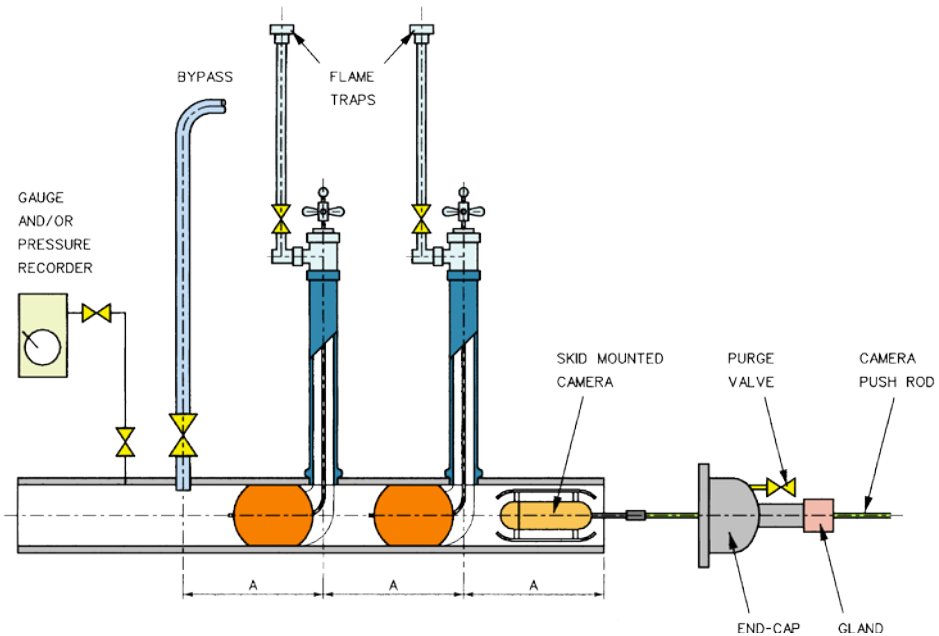

Figure L.5 – Camera Insertion Using Glanded End-Cap
- a) A special glanded cap end or pup-piece (see Figures L.5. and L.6.)